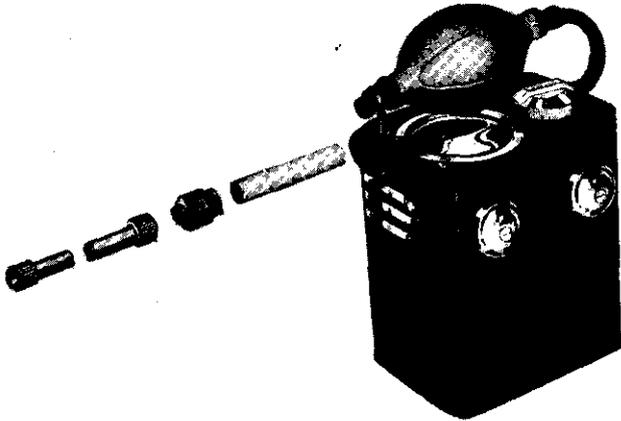

Fig. 1 - Explosimeter
4.01 A gas indicator, Fig. 1, (Mine Safety Appliances Company's Explosimeter - Model 2) or its equivalent is used for detecting combustible gases such as natural gas, manufactured gas, gasoline vapors, etc. in utility service entrances, curb boxes or other confined spaces.